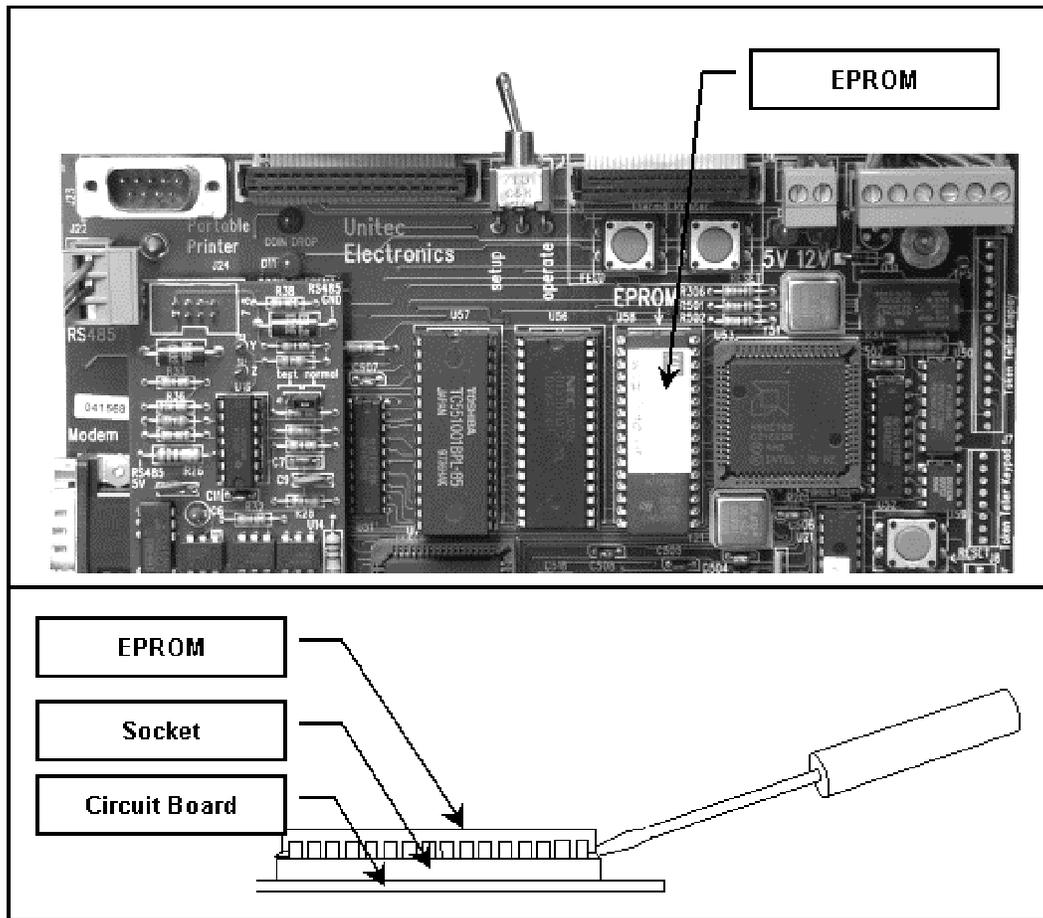

Figure 1. Locating and Removing the EPROM
1. Remove the existing EPROM located at connection U58 on the CPU board (see Figure 1) by inserting a small flat-blade screwdriver between the EPROM and the socket and prying it off. Be careful not to damage the socket or the circuit board.